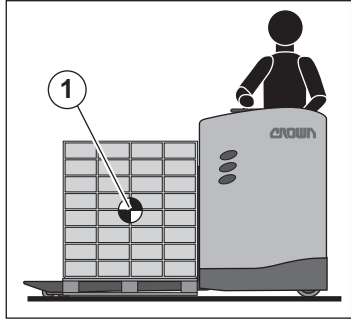

Fig. 2 View of truck
Load center(Fig. 2, ①) is the distance from the load backrest or vertical face of the fork, to the center of an evenly distributed load.